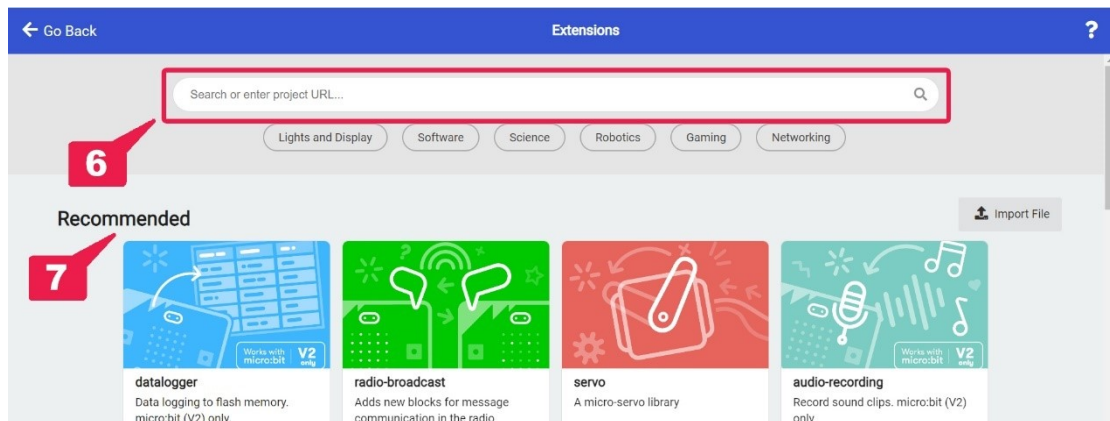

Figure 12: Extensions search menu
Clicking on the “**Extensions**” group will take you to the Extensions search menu (Figure 12). Here you can either search among the recommended extensions (7), or type the name (6) of a component you want to program (e.g. ESP8266, Bluetooth etc.) and see the available options.